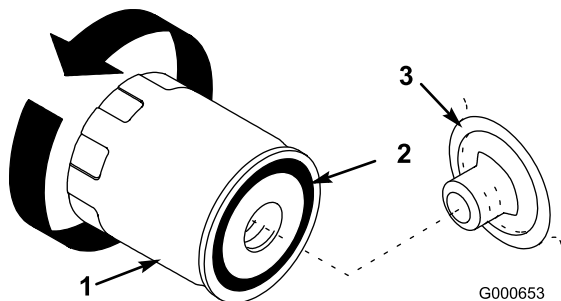

Figure 27
7. Remove the old filter and wipe the filter adapter (Figure 27) gasket surface.
10. Apply a thin coat of new oil to the rubber gasket on the replacement filter (Figure 27).
11. Install the replacement oil filter to the filter adapter. Turn the oil filter clockwise until the rubber gasket contacts the filter adapter, then tighten the filter an additional 1/2 turn (Figure 27).